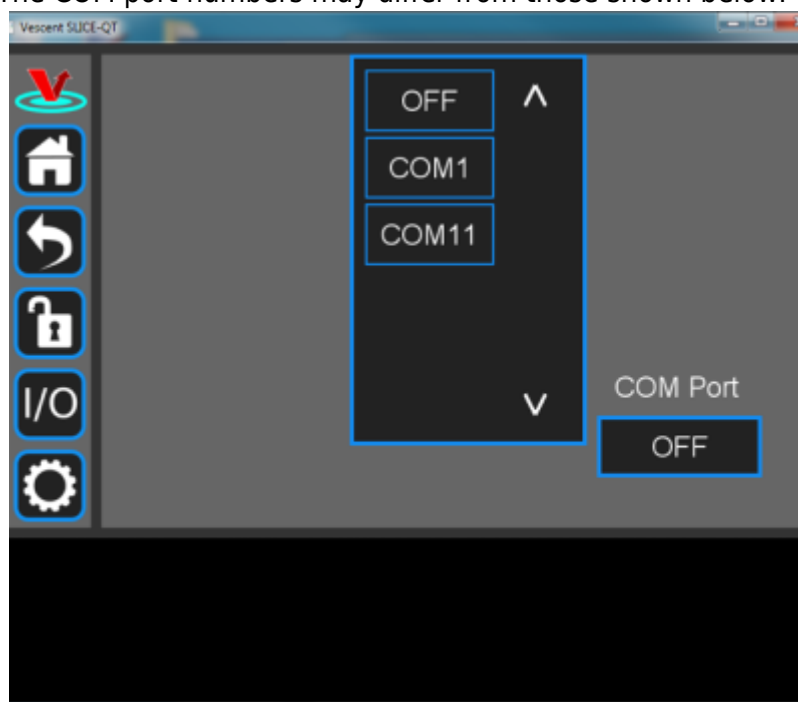

Fig. 44: COM port selection
7. Click on the OFF button below COM Port. You should see a menu similar to the one shown figure 44. NOTE: The COM port numbers may differ from those shown below.